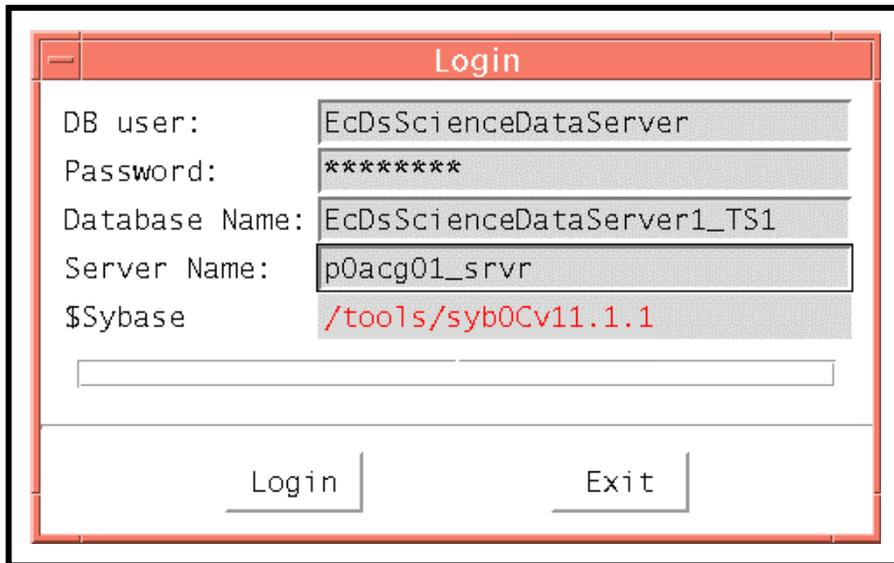

Figure 10. Database Login GUI
- The Database Login GUI will appear as shown in Figure 10.